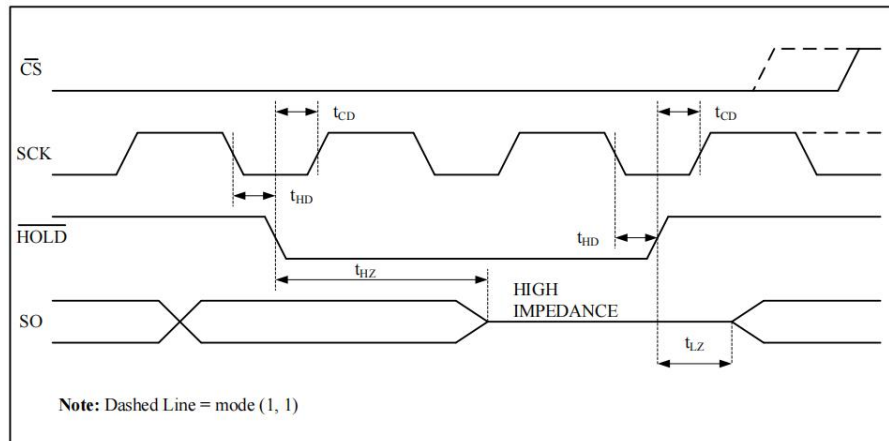

Figure 13
The  $\overline{\text{HOLD}}$  input can be used to pause communication between host and 25M01. To pause,  $\overline{\text{HOLD}}$  must be taken low while SCK is low (Figure 13). During the hold condition the device must remain selected ( $\overline{\text{CS}}$  low). During the pause, the data output pin (SO) is tri-stated (high impedance) and SI transitions are ignored. To resume communication,  $\overline{\text{HOLD}}$  must be taken high while SCK is low.